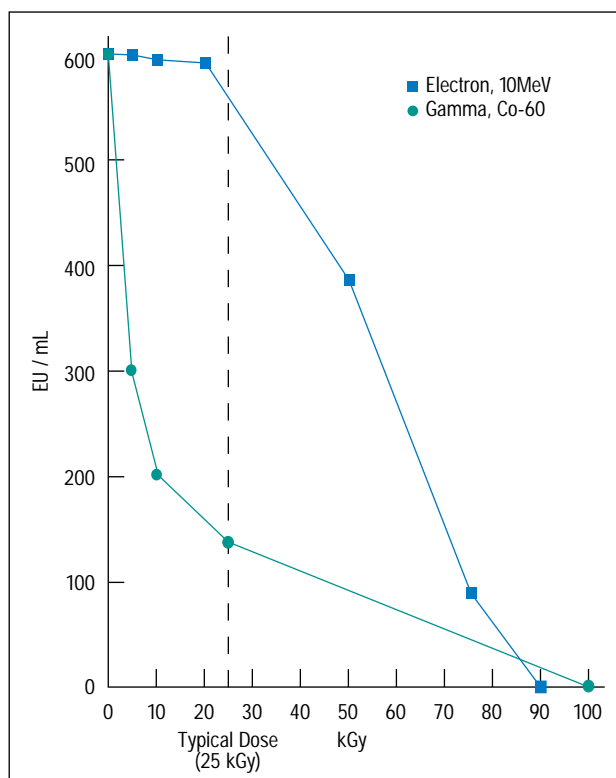

Figure 2
5. Gamma irradiation has been shown to reduce endotoxin levels to a greater extent than electron beam irradiation. (Bacterial endotoxins, or pyrogens, are fever-causing materials from the outer cell membranes of Gram-negative bacteria. These will be discussed in more detail on page 2 of this TechNote.) Steam autoclaving does not reduce endotoxin levels.¹ Figure 2 (see page 2) depicts the reduction of endotoxin levels after gamma and electron-beam irradiation.²
Figure 2 (below) quantifies the reduction of endotoxin levels. At the typical irradiation dose of 25 kGy, the levels of e. coli endotoxin, as measured by Guyomard et al,² were reduced by almost 80% when irradiated by gamma rays, and only 10% when irradiated by electron beam.